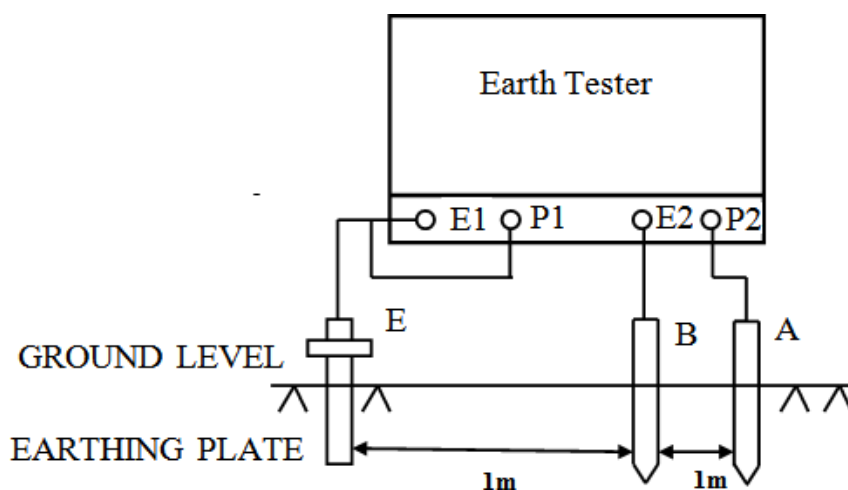

Fig:1 Schematic diagram for measurement of earth-resistance
1. Rig up the circuit as shown in Fig 1.
1. Rig up the circuit as shown in Fig 1